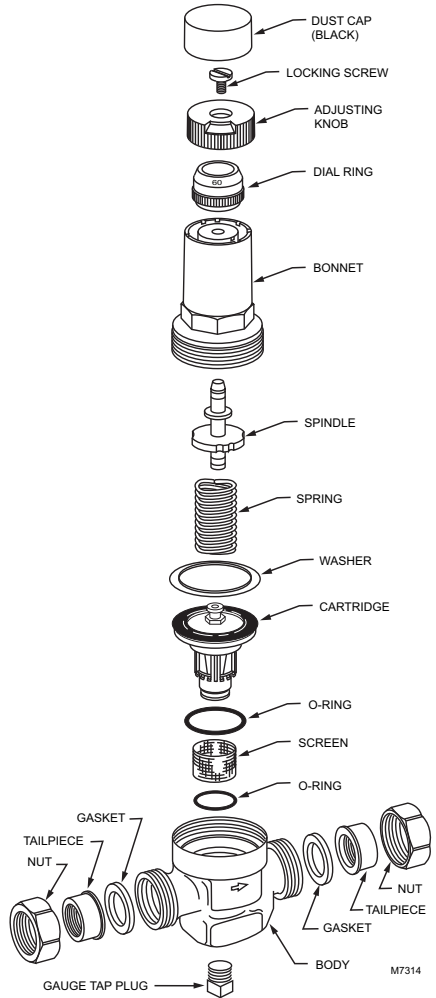

Fig. 3. DS05 exploded view.
10. Replace the spring and bonnet (see Fig. 3).
The gauge tap plug shown in Fig 3 is only available on the 1-1/4 in models.
Chatters.	<ul style="list-style-type: none"> Replace the screen and O-rings. Replace the cartridge as shown in Fig. 3.